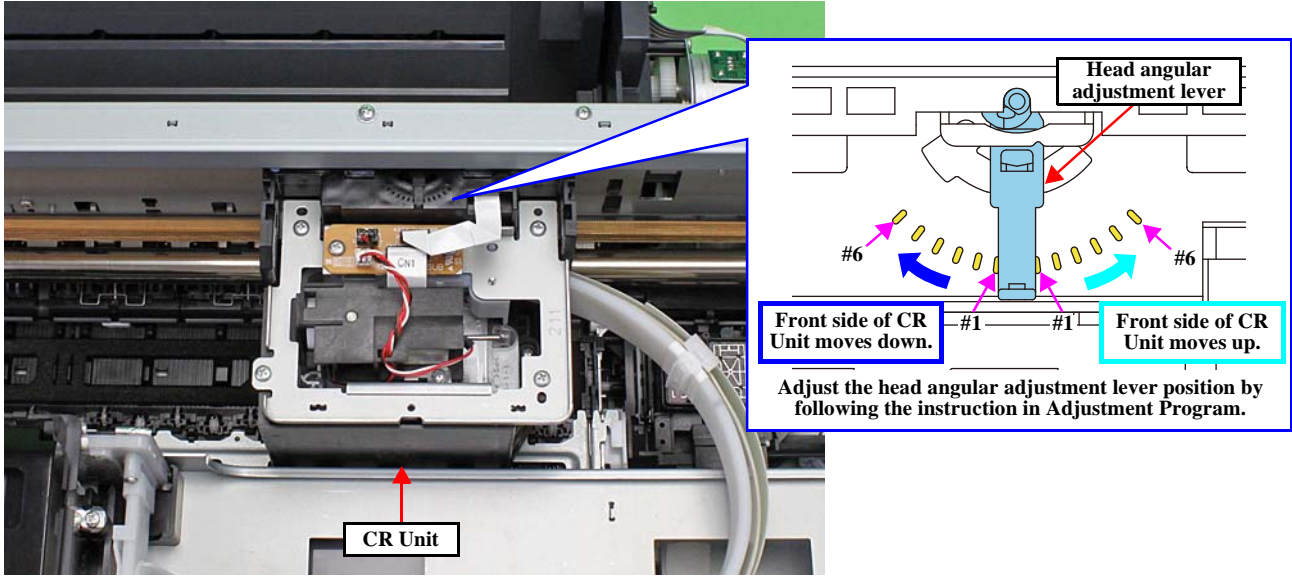

Figure 2-25. Adjustment in the PF Directio
- Case 2: the straight line is NOT inside the range from −6 to +6. Refer to Figure 2-25 and Adjust the head angular using Head angular adjustment lever. Refer to Table 2-4 because the direction of the adjustment is depended on the direction of the printed patter After adjustment, perform Step 2 again until the straight line is inside the range from −6 to +6.